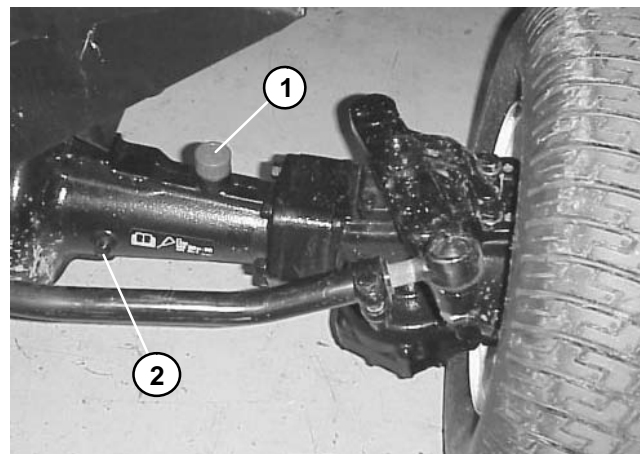

Figure 5
6. Slowly add lubricant through the fill/vent plug to bring the lubricant level up to the bottom of the axle support check plug hole (Fig. 5). As lubricant is added to fill/vent plug, right and left gear cases will fill as well.